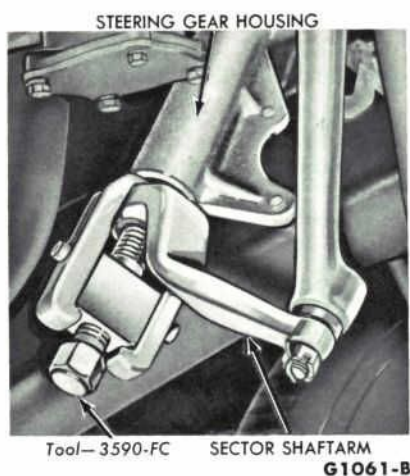

FIG. 12 — Sector Arm Shaft Removal
1. Raise the front of the car and install safety stands. Remove the nut securing the sector shaft arm to the steering gear. Separate the sector shaft arm from the steering gear (Fig. 12).